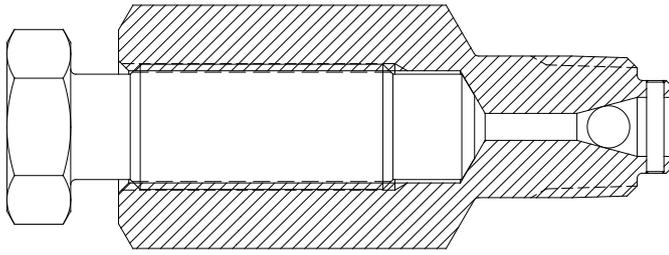

Figure 7
The valve is provided with three (3) injection fittings (see Figure 7) and two (2) vent/grease fittings (see Figure 8) in the assembly. Two (2) injection fittings are for emergency seat sealant injection (located on the middle of the valve body and either side of the gate) and another one on bonnet is for stem packing sealant injection. Two (2) vent/grease fittings are provided for venting
Remove the hex head fitting stringer, insert injectable packing stick into injection fittings (Figure 7), run stringer all the way in against the stem packing fitting, repeat injection of the injectable packing until sufficient to eliminate leakage. Discontinuous operation may be required to evenly distribute the sealant, generally once the pressure rises above valve rated pressure, hold for 2 or 3 minutes.